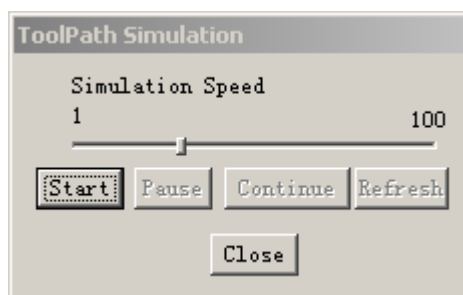

Fig.10-79
2. Then click on the shortcut icon  in Tool Path Bar or click Tool path->Tool path walk simulation in the menu bar. Then the dialog in Fig. 10-79 is displayed.